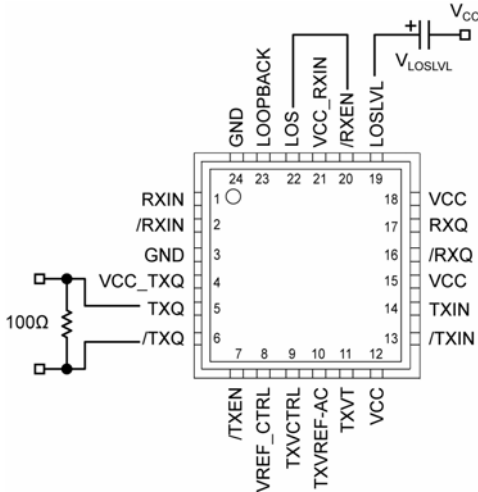

Figure 2a. Voltage Source Implementation
The SY58621L features a chatter-free Loss-of-Signal (LOS) TTL compatible output with an internal 4.75kΩ pull-up resistor. LOS circuitry monitors the input receiver signal and asserts a signal when the input signal falls below the threshold set by the programmable LOS level set pin (LOSLVL). When the amplitude of the receiver input signal falls below the threshold, LOS is asserted HIGH with a response time of ~0.2μs. LOS can be fed into /RXEN to maintain output stability by disabling the output during a Loss-of-Signal condition. Figure 2a and 2b shows the LOS connection to /RXEN. When /RXEN is HIGH, the output signal RXQ is held LOW and /RXQ is held HIGH. Typically, 2dB of LOS hysteresis is adequate to prevent the receiver output from chattering. LOS operation is optimized for data rates ≥ 622 Mbps with an input receiver amplitude of at least 10mV (20mV_{PP}). Due to the long time constant in slower data rates below 622Mbps, the SY58621L LOS function does not guarantee chatter-free operation for low amplitude signals.
LOS detection trip-point by setting up a voltage divider between VCC and VREF (an internal voltage source set at VCC-1.3V), since there is a 2.8kΩ internal resistor connected between LOSLVL and VREF. The input voltage range of LOSLVL ranges from VCC to VREF. See the “Functional Block Diagram” section and Figures 2a and 2b, to see how RLOSLVL sets up a voltage divider between VCC and VREF. See the “LOS Output DC Electrical Characteristics” table and “Typical Operating Characteristics” section to see how different RLOSLVL values affect LOS sensitivity.
- Connecting the input /RXEN to the LOS output as shown in Figures 2a and 2b, maintains receiver output stability under a Loss-of-Signal condition